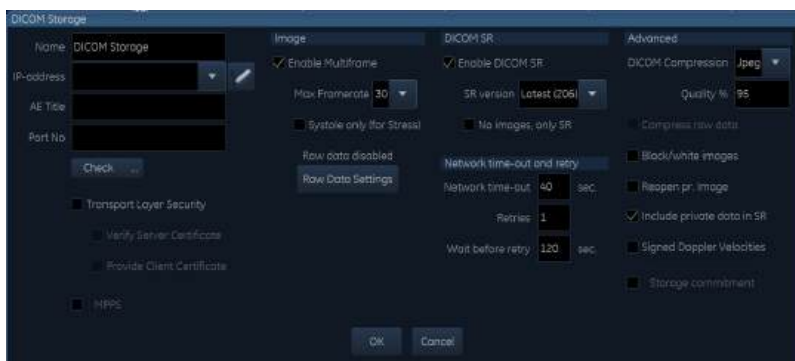

Figure 3-54. DICOM Storage Properties
6. When configuring the DICOM storage device, the following image settings are recommended to enter in the *Properties* window (Figure 3-54):